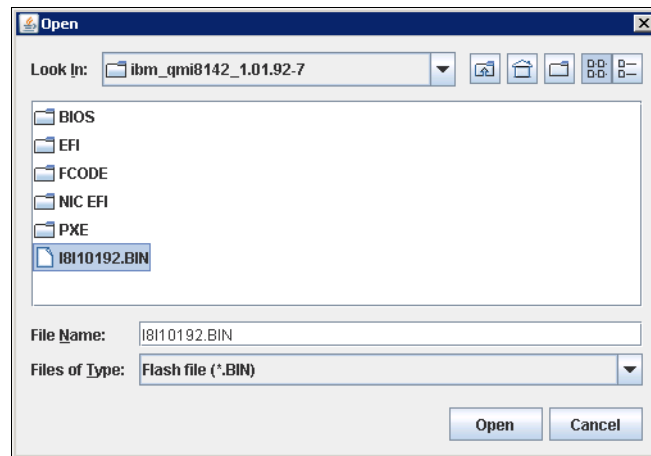

Figure 7-56 Firmware update file location
- In the Open window, select the path to the required update (Figure 7-56), and then click **Open**.